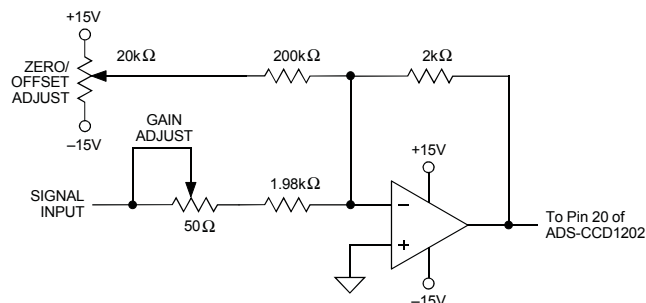

Figure 2. ADS-CCD1202 Calibration Circuit
Bypass all power supplies, as well as the REFERENCE OUTPUT (pin 21), to ground with 4.7µF tantalum capacitors in parallel with 0.1µF ceramic capacitors. Locate the bypass capacitors as close to the unit as possible. If the user-installed offset and gain adjusting circuit shown in Figure 2 is used, also locate it as close to the ADS-CCD1202 as possible.
2. ADS-CCD1202 achieves its specified accuracies without external calibration. If required, the device's small initial offset and gain errors can be reduced to zero using the input circuit of Figure 2. When using this circuit, or any similar offset and gain-calibration hardware, make adjustments following warmup. To avoid interaction, always adjust offset before gain.
### CALIBRATION PROCEDURE (Refer to Figures 2 and 3)
Any offset and/or gain calibration procedures should not be implemented until devices are fully warmed up. To avoid interaction, offset must be adjusted before gain. The ranges of adjustment for the circuit of Figure 2 are guaranteed to compensate for the ADS-CCD1202's initial accuracy errors and may not be able to compensate for additional system errors.
All fixed resistors in Figure 2 should be metal-film types, and multi-turn potentiometers should have TCR's of 100ppm/°C or less to minimize drift with temperature. In many applications, the CCD will require an offset-adjust (black balance) circuit near its output and also a gain stage, presumably with adjust capabilities, to match the output voltage of the CCD to the input range of the A/D. If one is performing a "system I/O calibration" (from light in to digital out), these circuits can be used to compensate for the relatively small initial offset and gain errors of the A/D. This would eliminate the need for the circuit shown in Figure 2.